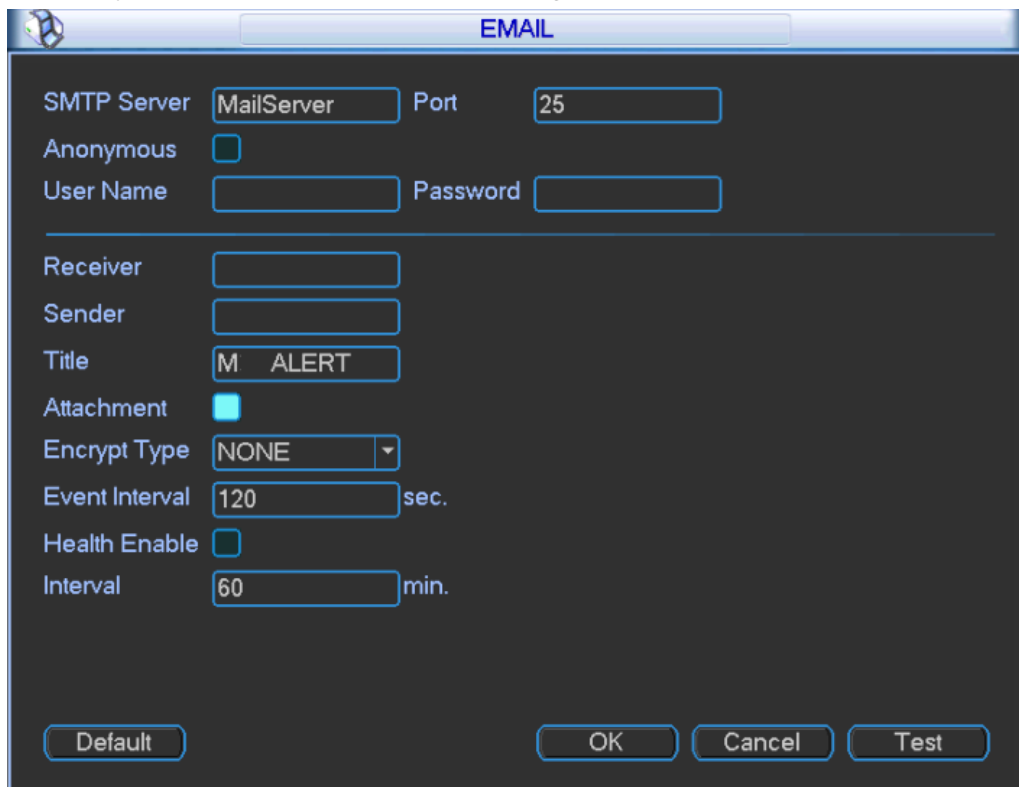

Figure 3-45
Step 1 In main menu, select “Setup> Network> Network Setup > Email”, and the system displays “Email” interface, as shown in Figure 3-45.